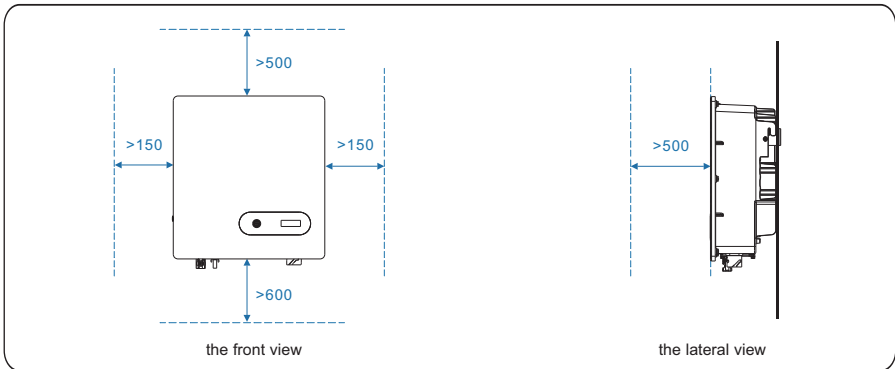

Figure 4.4 Installation Space Requirements (unit: mm)
- b. Reserve enough clearance around the inverter to ensure sufficient space for installation and heat dissipation, as shown in Figure 4.4.